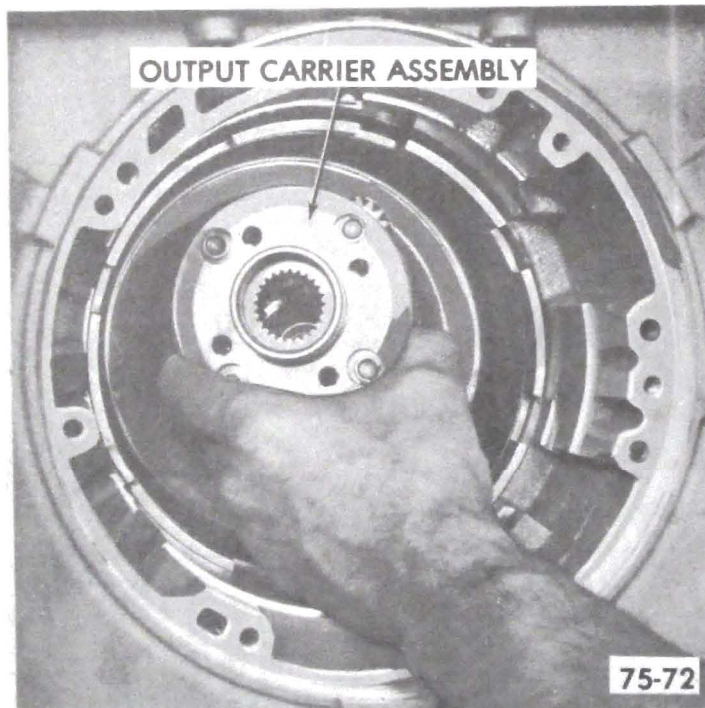

Figure 75-103
3. Remove output carrier assembly. See Figure 75-103.